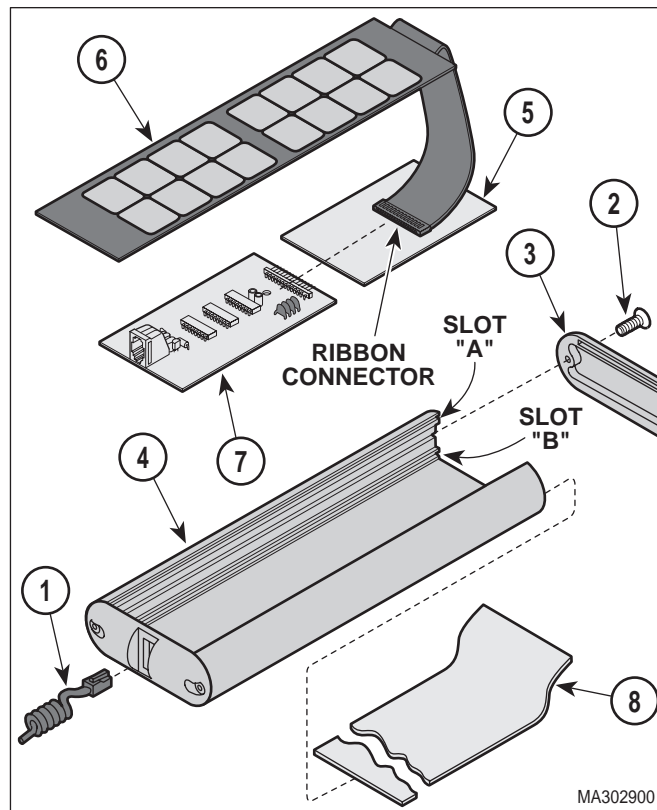

Figure 4-8. Hand Control Panel or Hand Control Board Removal / Installation
- (1) Disconnect coil cord (1, Figure 4-8) from hand control.